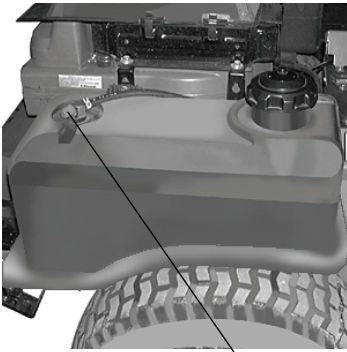

Figure 7 Fuel Shutoff Valve
7. **Fuel Shutoff Valve:** (See Figure 7.) Located on top of the fuel tank(s). When turned in a clockwise direction until it stops, it will shut off the flow of fuel to the engine. When turned in a counterclockwise direction it will open and allow fuel to flow to the engine. Close this valve if you are not going to run the mower for a period of 30 minutes or more to prevent flooding the engine.